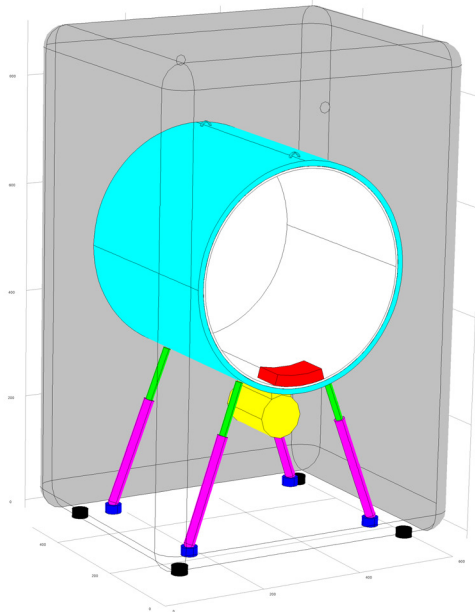

Figure 1: Model geometry (top, bottom, front, and left panels of the housing are hidden)
The geometry of the washing machine assembly is shown in Figure 1.
- Connection with the tub, at front and back surfaces, using stabilizing springs. These springs are not shown in the geometry (Figure 1) or in the model.